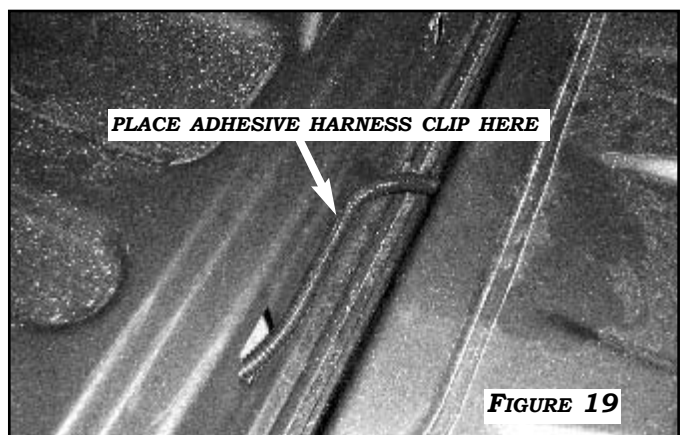

FIGURE 19
2. ROUTE THE TAILGATE EXTENSION HARNESS TO THE HOLE AT THE BOTTOM RIGHT SIDE OF THE TAILGATE. PULL THE CONNECTOR THROUGH, THEN INSERT ROUTE THE HARNESS UNDER THE BED THROUGH THE SECOND HOLE AS SHOWN IN **FIGURE 19**. CLEAN THE AREA WITH ALCOHOL THEN ATTACH THE SUPPLIED ADHESIVE HARNESS CLIP TO THE BOTTOM OF THE TAILGATE TO SECURE THE HARNESS AS SHOWN IN **FIGURE 19**.